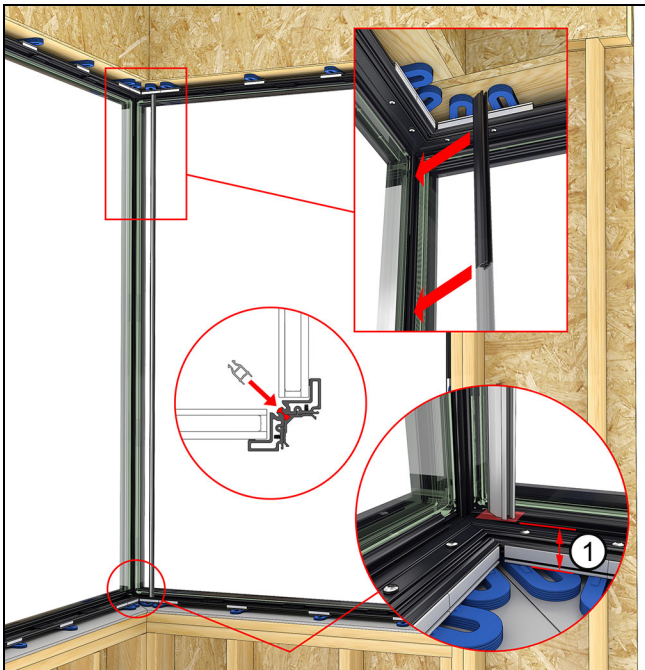

Figure 52
14. Install the interior miter clip. Place the clip about 1 1/2" off the bottom of the frame. See Figure 52.